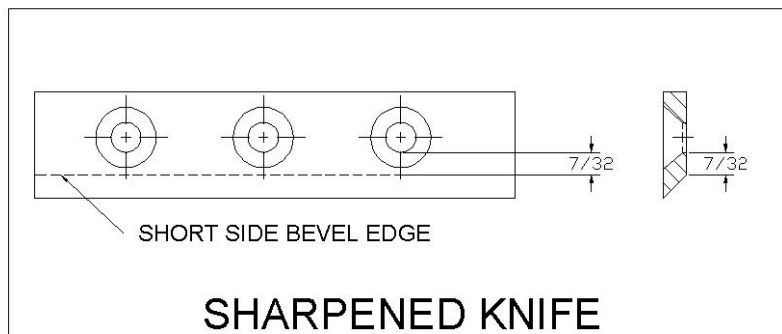

Figure 2
- Once this measurement is below $7/32$ " (see figure 2) the knife should be replaced.